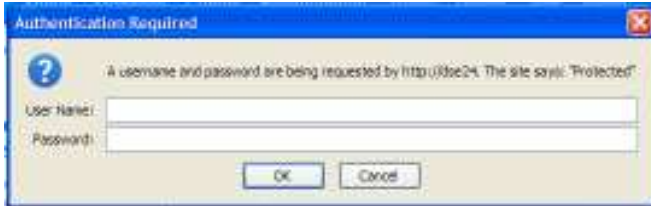

FIGURE 1
- 5) The following discussion assumes that the PC you plan to use to control the DSE24 is up and running and your web browser of choice has been activated. In the browser's web address window, type in the IP ADDRESS or HOST NAME that you programmed into the DSE24. You will be presented with the dialogue box shown in figure 1 below.